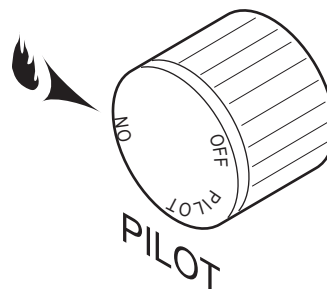

Figure 22 - On Position
Depress and turn the knob counterclockwise  to the "ON" position. *Figure 22*. It will take less than four (4) seconds for the burner to ignite.